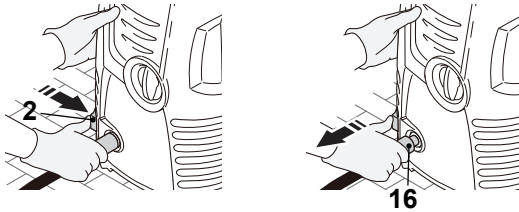

Fig. 26
10. Push the high pressure hose release button (2) and disconnect the high pressure hose (16) from the water outlet (6) by pulling it out (Fig. 26).